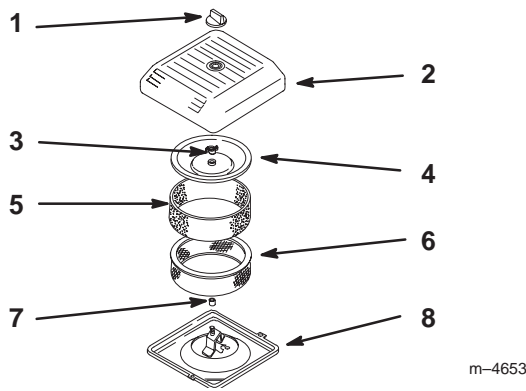

Figure 28
4. Unscrew the knob and remove the air cleaner cover (Fig. 28).
- Carefully slide the foam pre-filter off of the paper element (Fig. 28).
- Unscrew the cover nut and remove the cover and paper filter (Fig. 28).
- Carefully slide the foam pre-filter onto the paper filter (Fig. 28).
- Place the air cleaner assembly onto the air cleaner base (Fig. 28).
- Install the cover and secure it with the wingnut (Fig. 28).
- Install the air cleaner cover and secure with the knob (Fig. 28).